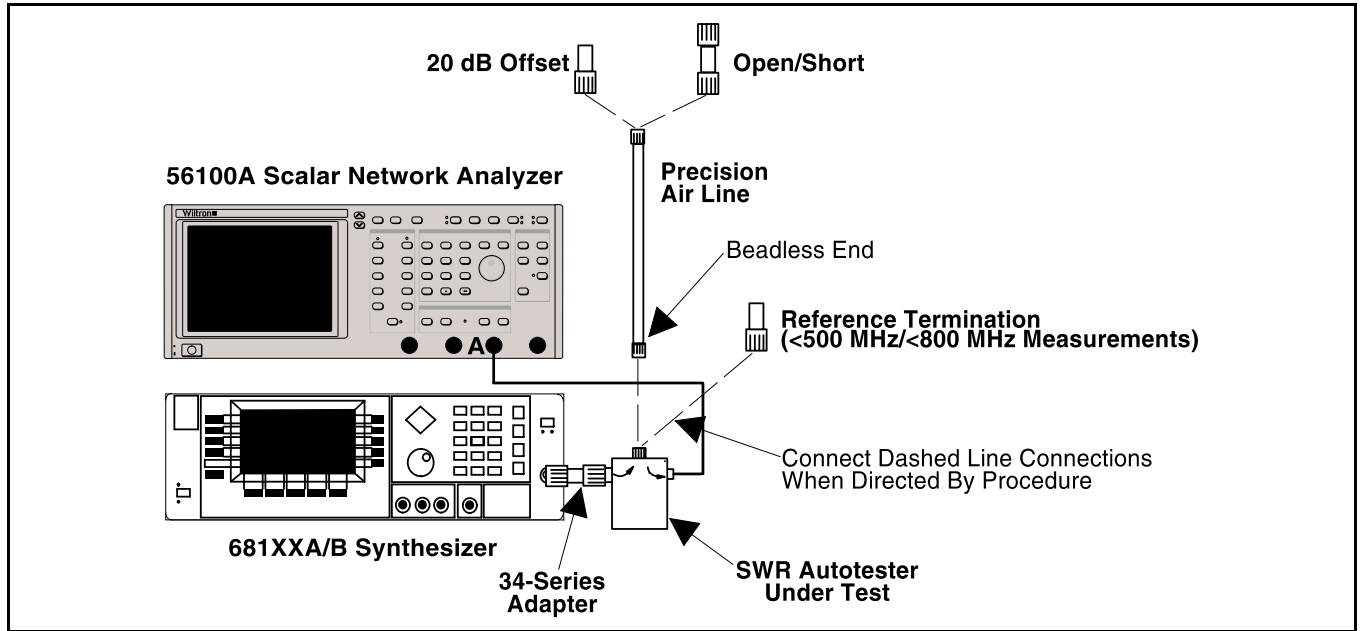

Figure 6. Test Equipment Setup for Directivity Measurement Using 56100A Scalar Network Analyzer
1. Connect test setup as shown in Figure 6.